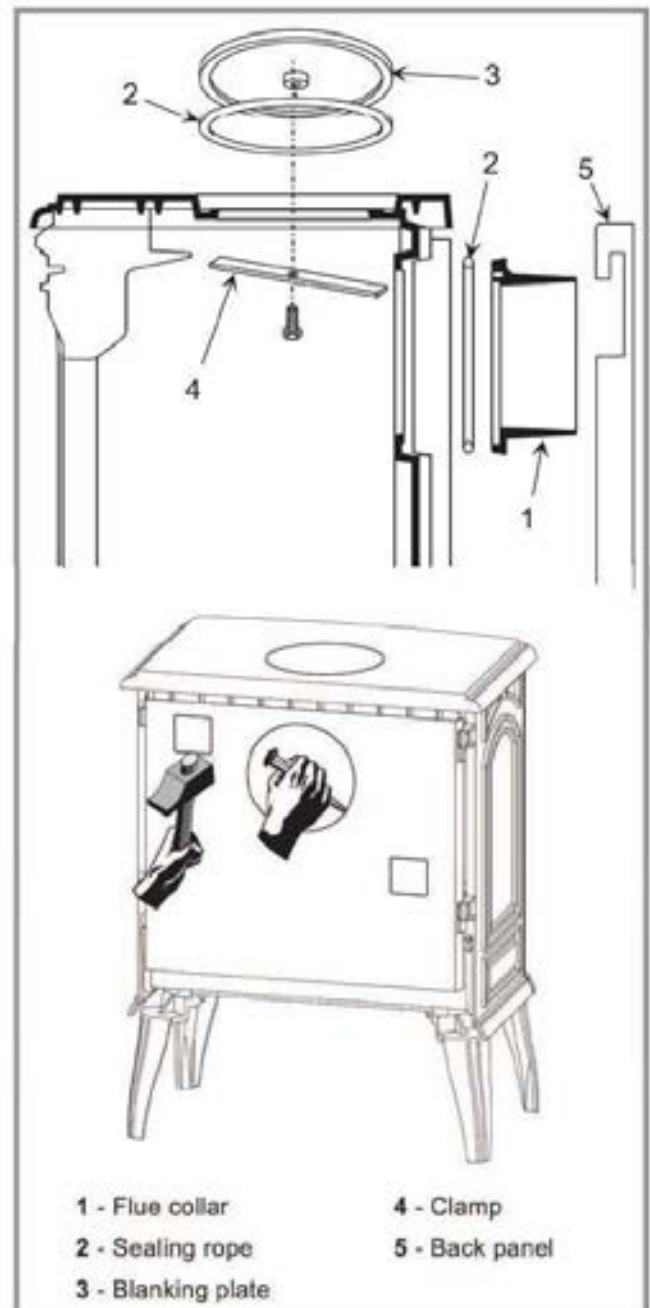

Figure 4 - Smoke exit at rear
2.4.2. Smoke exit at rear (figure 4)